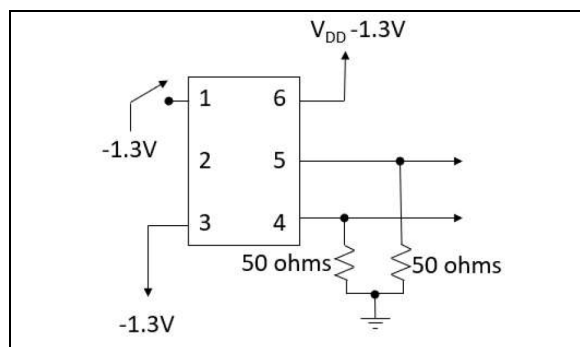
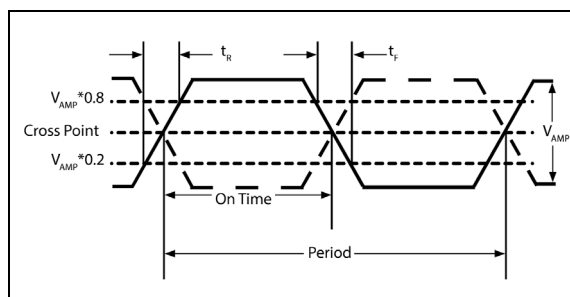
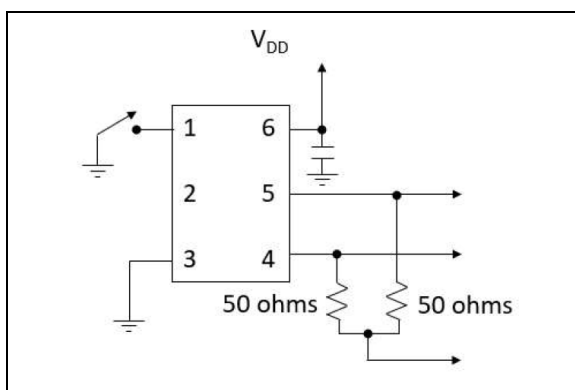

FIGURE 1-1: LVPECL Test Circuit.
FIGURE 1-2: LVPECL Output Rise/Fall Time.
FIGURE 1-3: LVDS Test Circuit.
- 3:** Figure 1-1 defines the test circuit and Figure 1-2 defines these parameters.
- Note 3:** Figure 1-1 defines the test circuit and Figure 1-2 defines these parameters.
- 3:** Figure 1-3 defines the test circuit and Figure 1-2 defines these parameters.